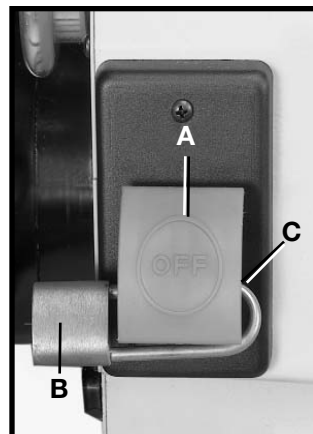

Fig. 20
IMPORTANT: When the tool is not in use, the switch should be locked in the “OFF” position (A) Fig. 20 to prevent unauthorized use, using a padlock (B) Fig. 20, with a 3/16” diameter shackle inserted through the holes in the switch plate (C) Fig. 20.